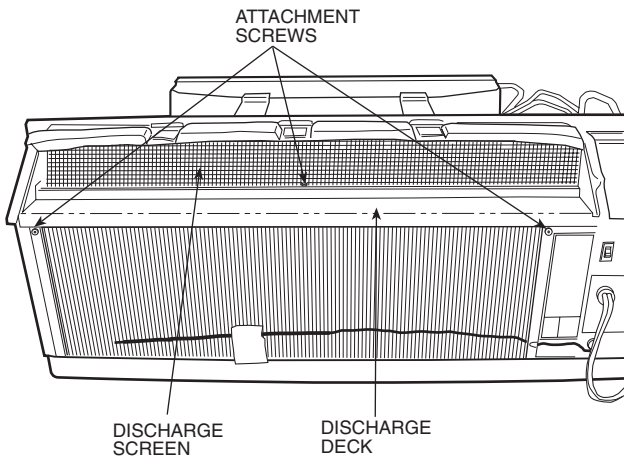

FIGURE 9 — LOCATION OF ATTACHMENT SCREWS ON DISCHARGE DECK OF UNIT
2. Remove discharge screen screw using a $\frac{5}{16}$ -in. nut driver. See Figure 9.
3. Remove the discharge deck assembly screws using a $\frac{3}{16}$ -in. nut driver. See Figure 9.